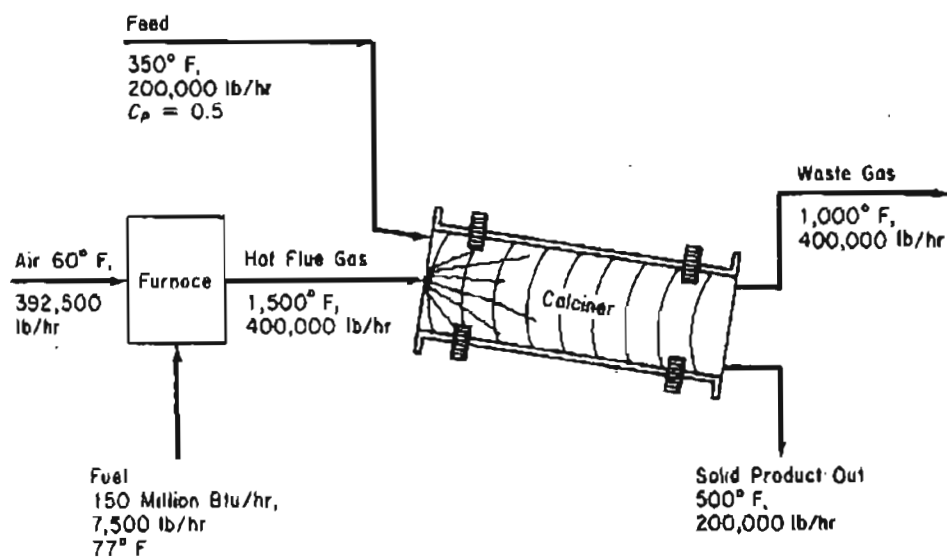

Figure P31.4
- 31.4** Figure P31.4 shows a calciner and the process data. The fuel is natural gas. How can the energy efficiency of this process be improved by process modification? Suggest at least two ways based on the assumption that the supply conditions of the air and fuel remain fixed (but these streams can be possibly passed through heat exchangers). Show all calculations.